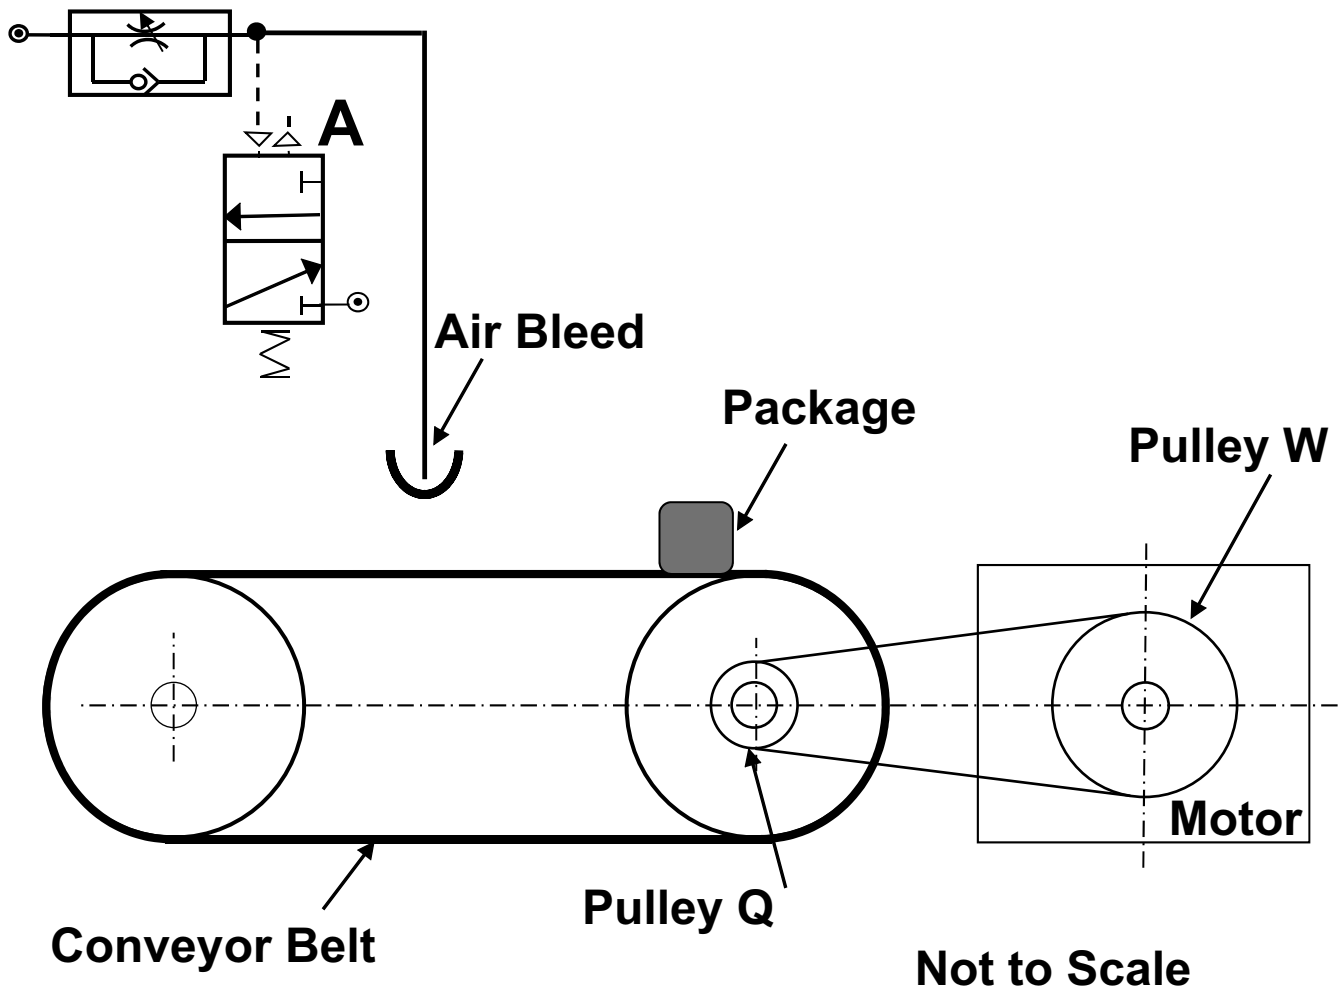
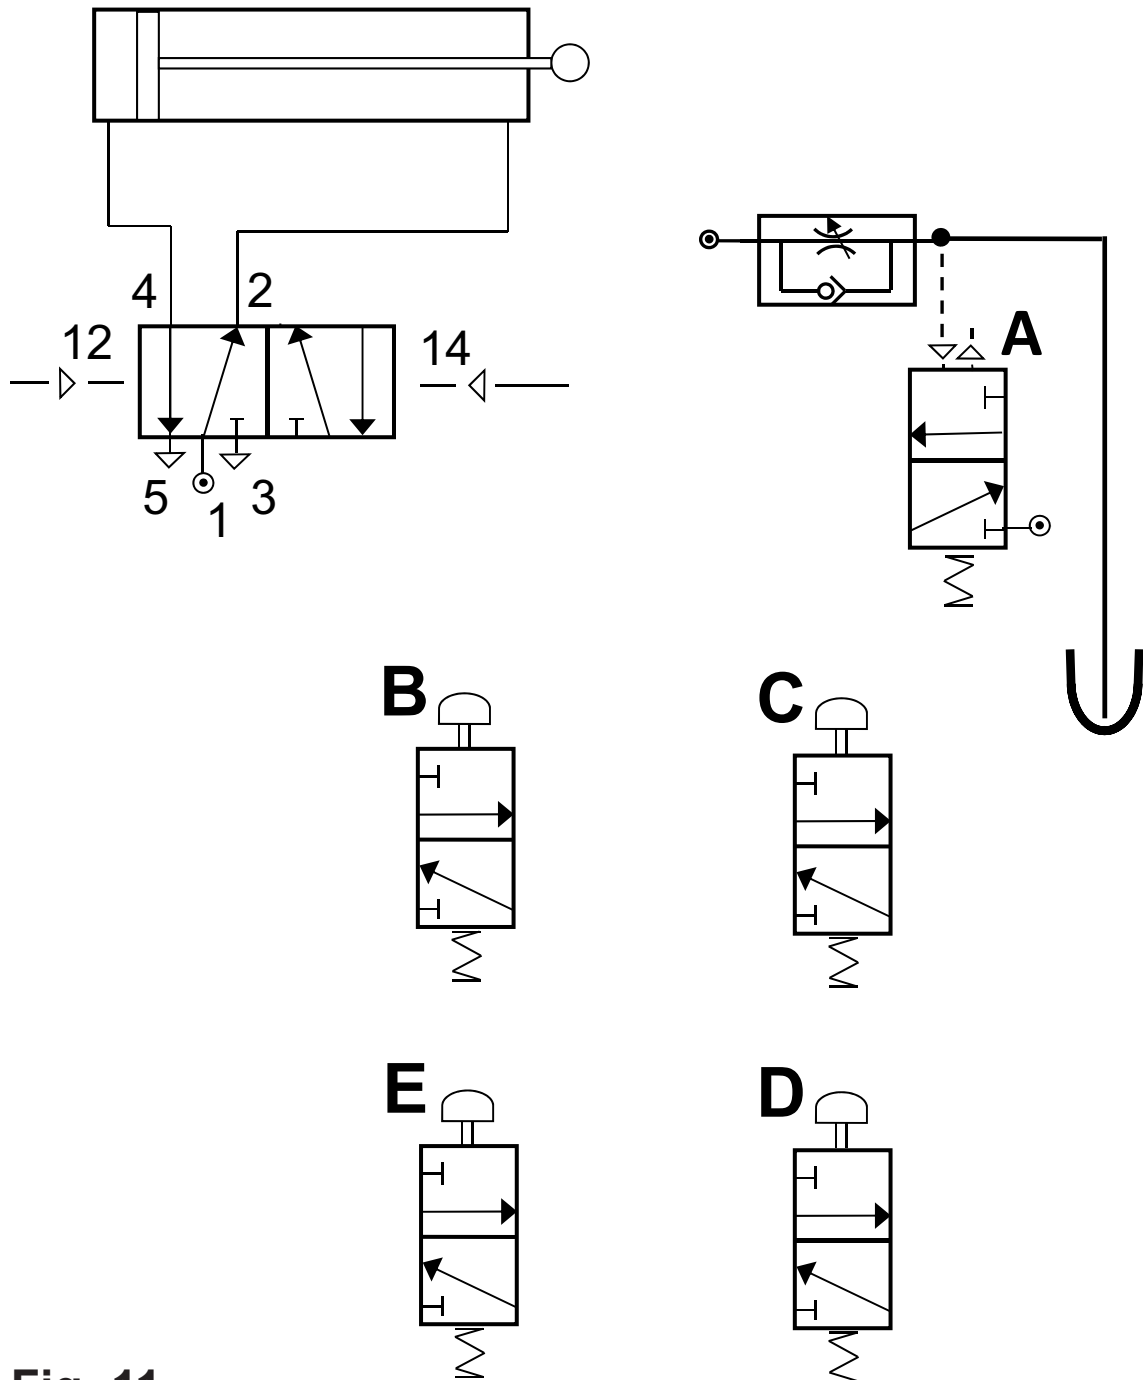

Fig. 10
Fig. 11
- 3** **Fig. 10** shows an incomplete conveyor belt system which incorporates both mechanical and pneumatic components. Packages activate the air bleed as they move past on the conveyor belt.
- (c) Valve **A**, shown in **Fig. 10** on page 14, forms part of the incomplete pneumatic circuit shown in **Fig. 11**. Add any necessary additional components to **Fig. 11** to enable speed control of the outstroke of the double acting cylinder following a delay in time after valve **A** has been activated. [4 marks]
- (d) Add any necessary additional components to **Fig. 11** to enable the double acting cylinder to instroke following activations at B **OR** C **OR** D **AND NOT** E. [5 marks]
(e) **Pulley W**, shown in **Fig. 10**, is attached to the motor shaft using a key and keyway. Using an annotated sketch, show the main features of this fixing method. [3 marks]
(f) The double acting cylinder, shown in **Fig. 11**, operates with an air pressure of 0.5 N/mm^2 , produces a force of 100N during the outstroke and a force of 74.88N during the instroke. Calculate the piston rod radius. Please assume $\pi = 3.14$. [4 marks]